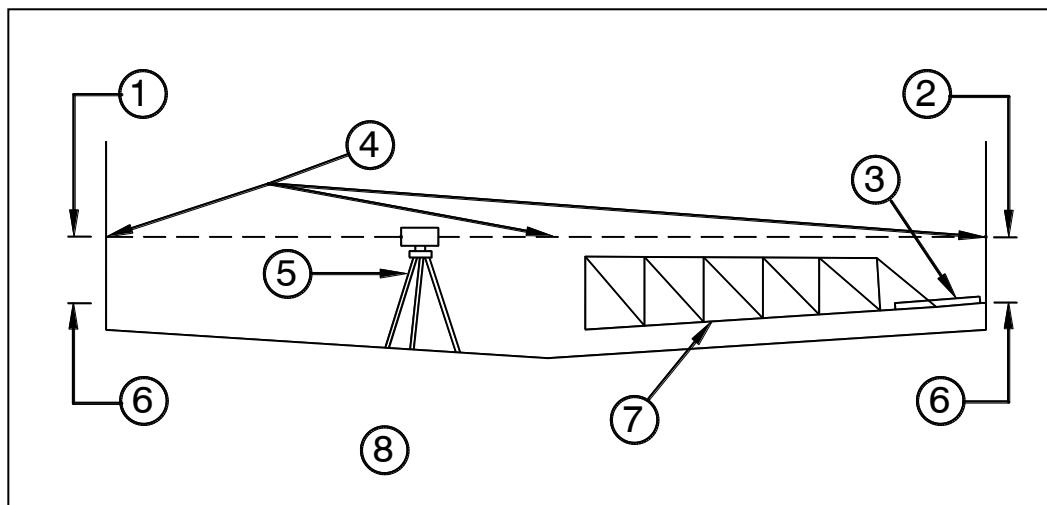
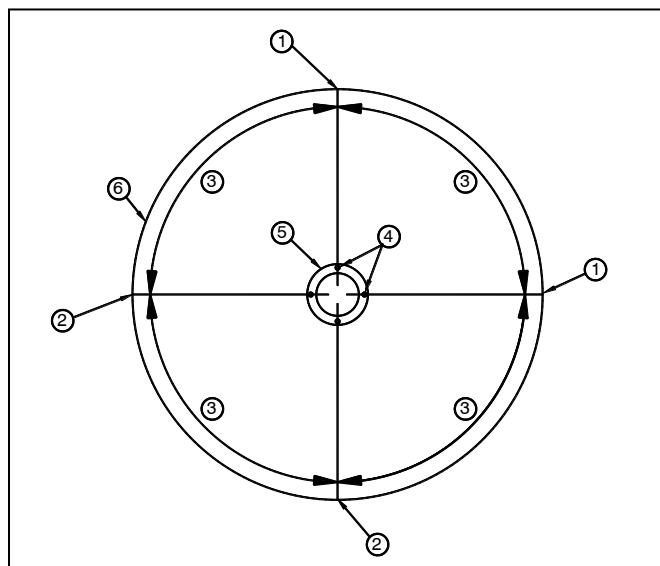

Figure 2.11a
Figure 2.11b
- d. Set up a surveyor's level near the center of the tank. Using the level, mark four, level benchmarks on the tank wall at the same height and spaced approximately 90° apart. See Figures 2.11a and 2.11b. Benchmarks should be in alignment with the jackscrews (drive leveling screws), as shown in Figure 2.11b
- e. Rotate the drive and stop one (and the same) rake arm at each of the four level points marked around the tank, and using a carpenter's level as an extension from that arm to the tank wall, make the second marks. These are shown as the "Reference Marks" in Figure 2.11a.
- f. Referring to Figures 2.11a and 2.11b, compare the difference in dimensions between the level marks and the rake arm reference marks at diametrically opposite sides of the tank (two directions, 90° apart).